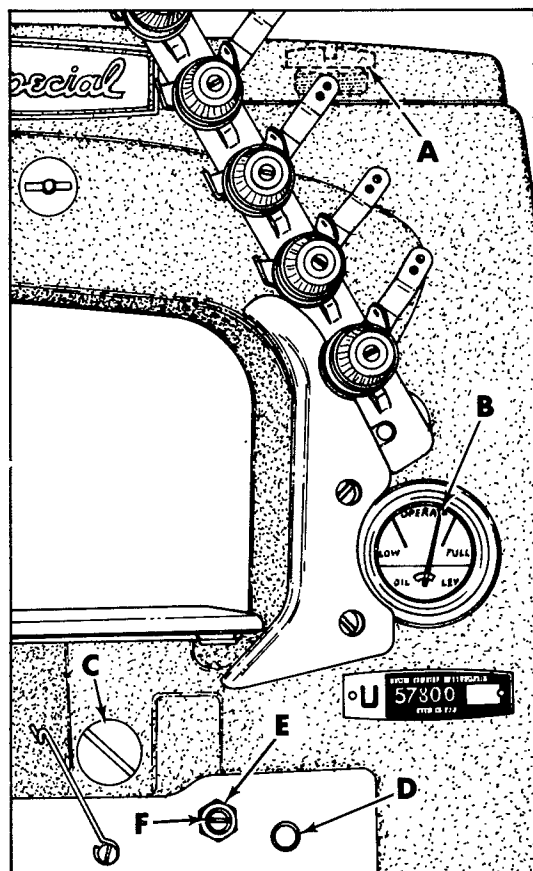

Fig. 1
Before operating, fill machine with oil at plug screw (A, Fig. 1). While filling machine with oil, check gauge (B). When proper oil level is reached, gauge needle will register on black line marked "FULL". Oil must be added when gauge needle registers on black line marked "LOW". Although the machine can be operated safely when gauge needle registers in the "OPERATE" zone, it is recommended to always check oil level before operating, to be sure machine is filled with oil to the "FULL" mark. CAUTION: DO NOT over fill machine.
- Remove plug screw (C, Fig. 1) and tip machine forward to drain all oil from reservoir.
- Fill reservoir until oil is even with bottom of knee press shaft bushing (D).
- Loosen locknut (E) and rotate calibrating screw (F) as required until gauge needle registers on the black line marked "LOW".
- Tighten locknut (E), then replace plug screw (C) and lower crank chamber cover.